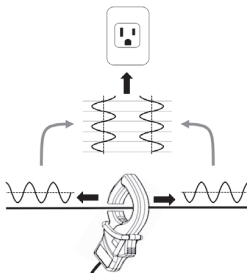
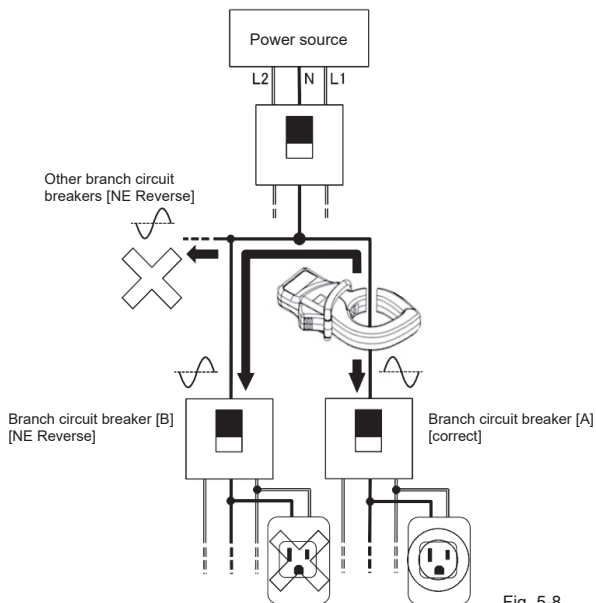
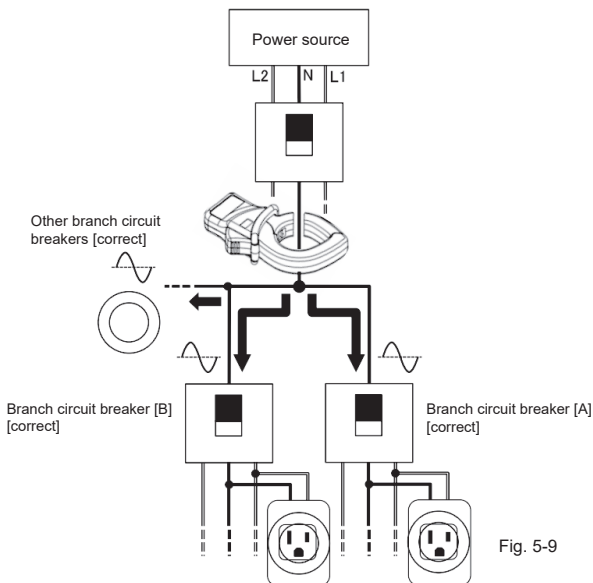

Fig. 5-4
Fig. 5-8
Fig. 5-9
- As shown in Fig. 5-4, the phase of test voltage applied to a neutral wire (N) changes 180-degree depending on the orientation of the test voltage injection clamp.
Depending on the orientation of the test voltage injection clamp, as explained with Fig. 5-4 at the previous clause, KEW 4506 may judge as [NE Reverse] even if the outlet is correctly wired as shown in Fig. 5-8 (outlet wired to branch circuit breaker [B]).
- When the test voltage injection clamp is connected close to the distribution board, KEW 4506 can test the outlet which is wired to branch circuit breaker [B] shown in Fig. 5-8 and judge as "PASS" (correct); however, it is NOT recommended to connect test voltage injection clamp to the position shown in Fig. 5-9.